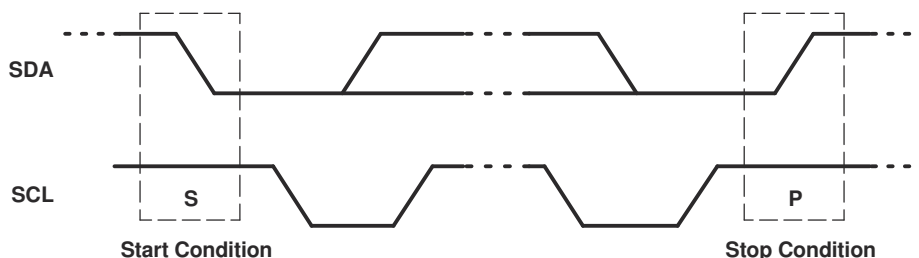

FIG 8-2. Definition of Start and Stop Conditions
Both data and clock lines remain high when the bus is not busy. A high-to-low transition of the data line while the clock is high is defined as the start condition (S). A low-to-high transition of the data line while the clock is high is defined as the stop condition (P) (see FIG 8-2).